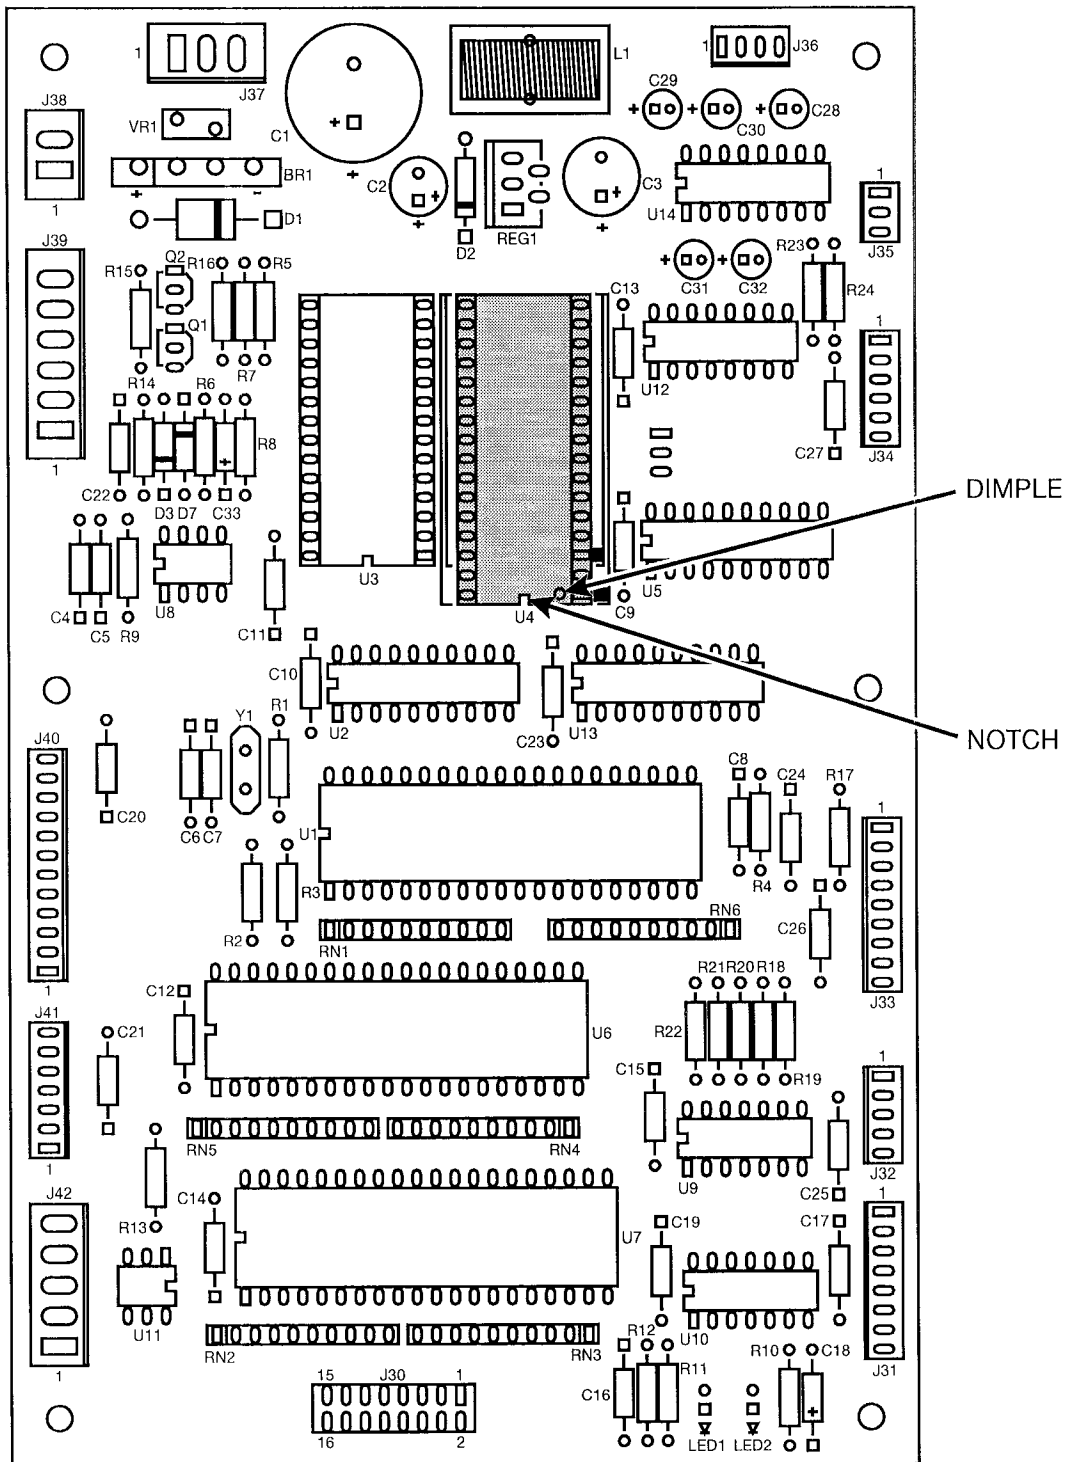

Figure 3
3. On figure 3, see the shaded area representing EPROM U4. These devices have various means of showing how they are to be oriented on the circuit board. Some EPROMs will have a small notch which matches the notch printed on the controller board. Other EPROMs may have a small dimple as shown, others may have a painted stripe. Take note of where the locating mark is on the EPROM currently mounted on the controller board. Your new EPROM will be placed in that same orientation. The shaded area on the figure is where the new EPROM will go.